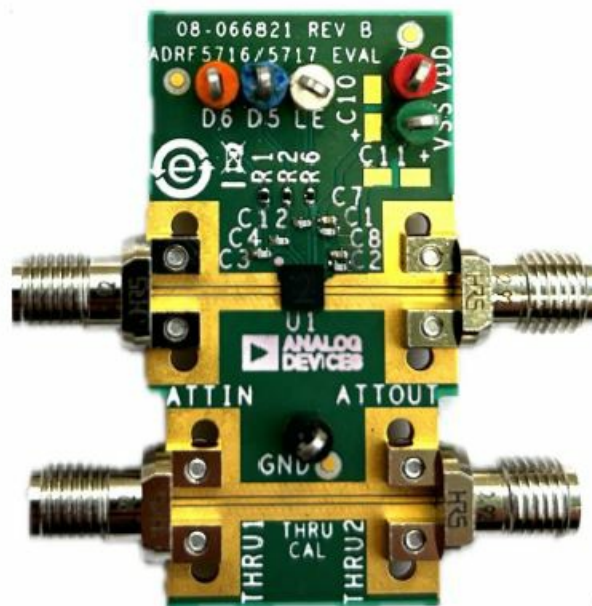

Figure 1. ADRF5716-EVALZ Evaluation Board Photograph
- This user guide describes the ADRF5716-EVALZ evaluation board, which is designed to simply evaluate the features and performance of the ADRF5716. A photograph of the evaluation board is shown in Figure 1.